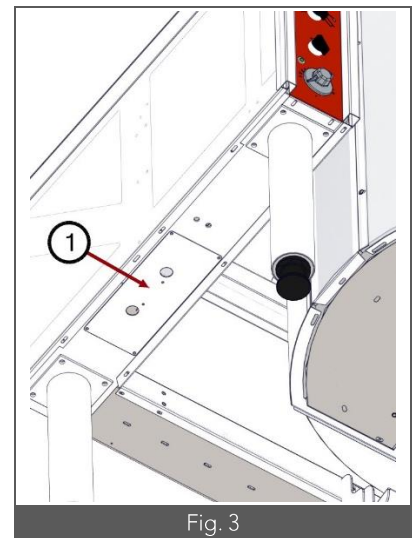

Fig. 3
- Locate the position of the electrical junction box, which is mounted on a plate under the left arm of the appliance (Fig. 3 Item 1).